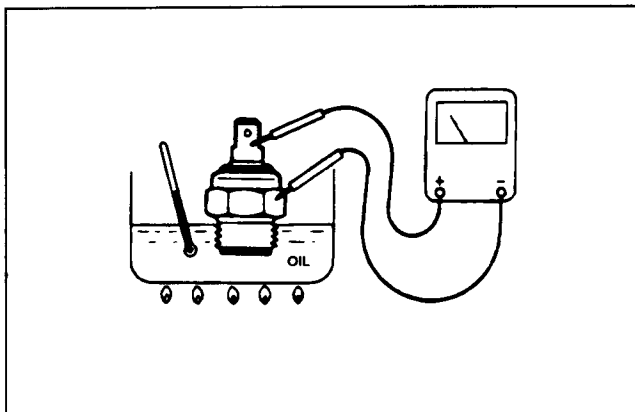

Figure 20
2. Put the switch in a container of oil with a thermometer and heat the oil (Fig. 20).
3. The switch is normally open (NO) and should close at 226 - 237° F (108 - 114° C).